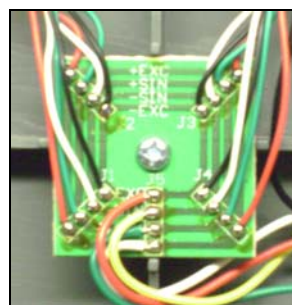

Figure 3-2. Load Cell Junction Board.
3. Unsolder the Load Cell Cable's leads from the Load Cell Junction Board. (See Figure 3-2.)